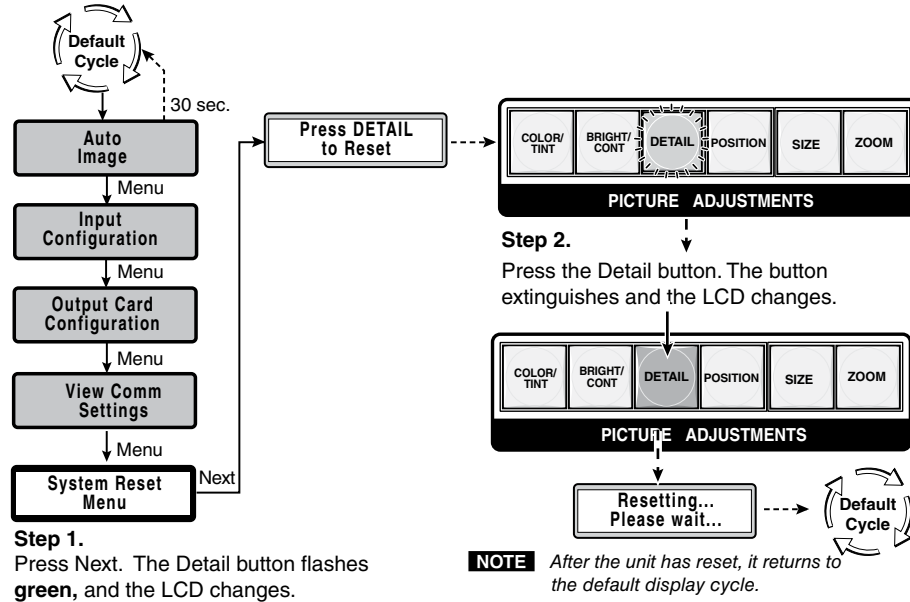

Figure 3-51 — System Reset menu and operation
1. Press the Next button. The LCD displays “Press DETAIL to reset”, and the Detail button flashes (see figure 3-51).